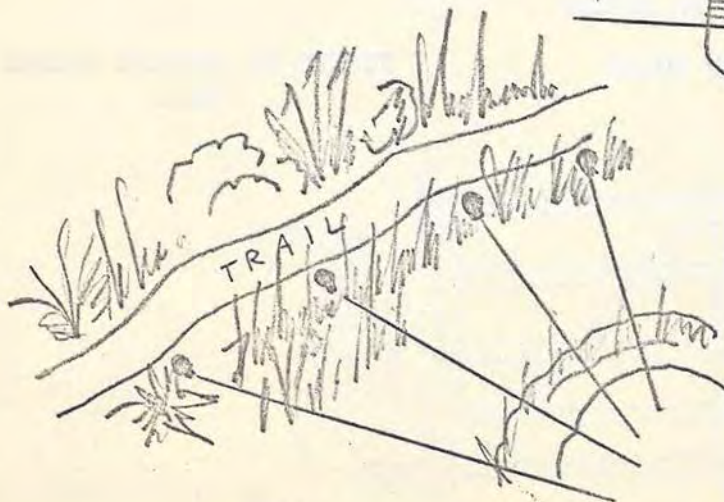

FIGURE 65. COMMAND DETONATED GRENADES
f. Command Detonated Grenades: In this situation the guerillas have tied a series of hand grenades to bushes, tress, or in grass clumps along trails or avenues of approach to their positions. The safety pins of the grenades are linked by fish cord or wire to an enemy position overlooking the site. When our patrols enter the killing zone of the grenade ambush site the one or two man team, by pulling the string or wire, can detonate one or any number of grenades without warning. (Figure 65),